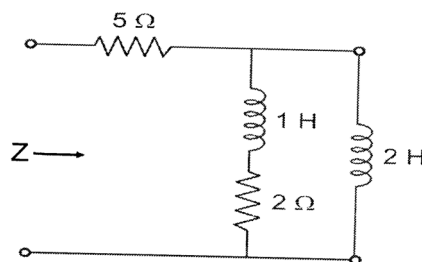

Fig. No.7
- Q8) a)** Draw pole-zero plot of the driving point impedance of the network shown in Fig. No.7. [9]